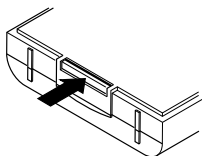

Figure 2
2. **Open chime case.** Press in catch on bottom of chime and lift the case open (see Figure 2).